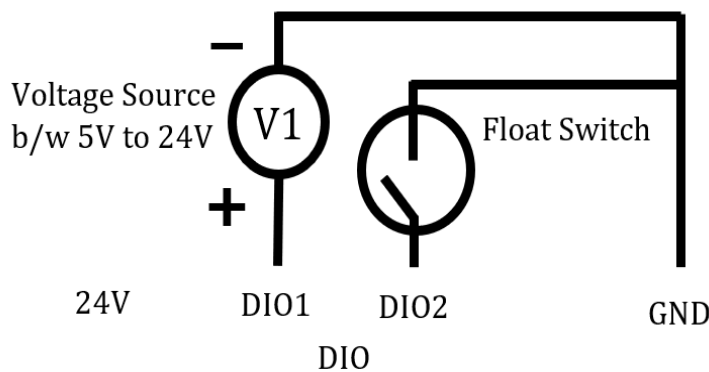

Figure 10: Digital Input Sensor Connection Diagram
**Input Configuration:** The input pins can be driven either by voltage between 5V-24V or can also sense dry contacts like float switches. Their connections when configured as input are illustrated in Fig 10.